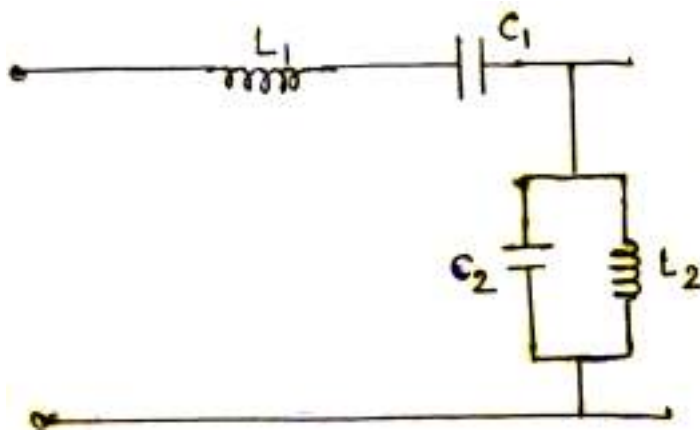

Figure 4 Q. 6(c)
- c) Identify the zeros of transmission for the network shown in figure 4. **4**